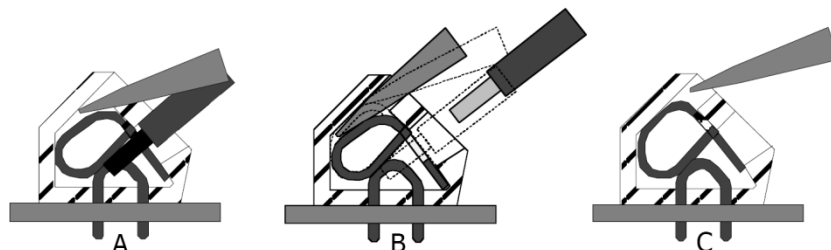

Figure 52. Removing connections in screwless spring-loaded terminals
- Place a size 1 screwdriver in the upper opening and insert it turning slightly upwards (figure 52 A).
- Then draw the wire from the lower opening (figure 52 B).
- Withdraw the screwdriver (figure 52 C).